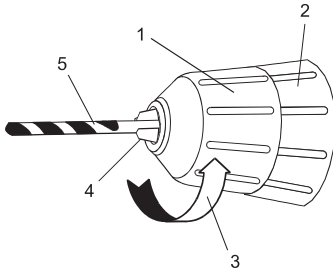

Fig. 4
1. To open the keyless drill chuck, grasp the chuck body (1) and the chuck collar (2) with the other hand. Rotate the chuck body in a counter-clockwise direction (3) until the chuck jaws (4) open wide enough to accept the bit (see Fig. 4).
2. Insert bit (5) into the chuck the full length of the jaws (4). Raise the front of your drill slightly to prevent the bit from falling out of the chuck jaws.
3. Tighten the chuck jaws onto the bit by holding the chuck collar (2) with one hand and turning the chuck body (1) in a clockwise direction.